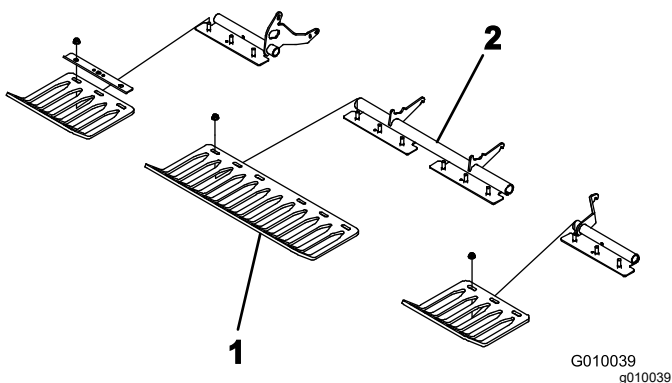

Figure 23
4. Loosely install the turf guards to the turf guard brackets with 4 turf guard clamps and 12 flange nuts (Figure 23). Do not tighten the fasteners.
Note: The factory ships turf guard clamps and flange nuts secured to the turf guard brackets (Figure 23).